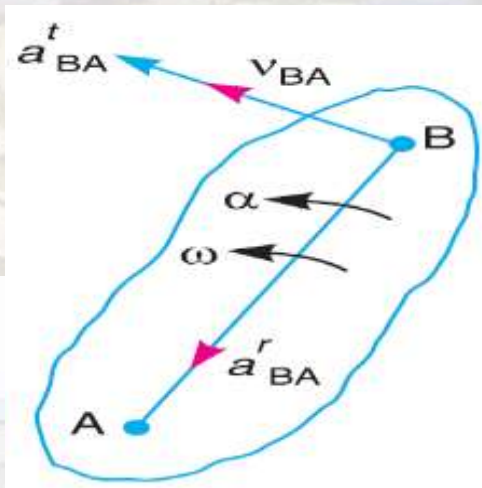

FIGURE 1
- Consider two points A and B on a rigid link as shown in Figure 1.